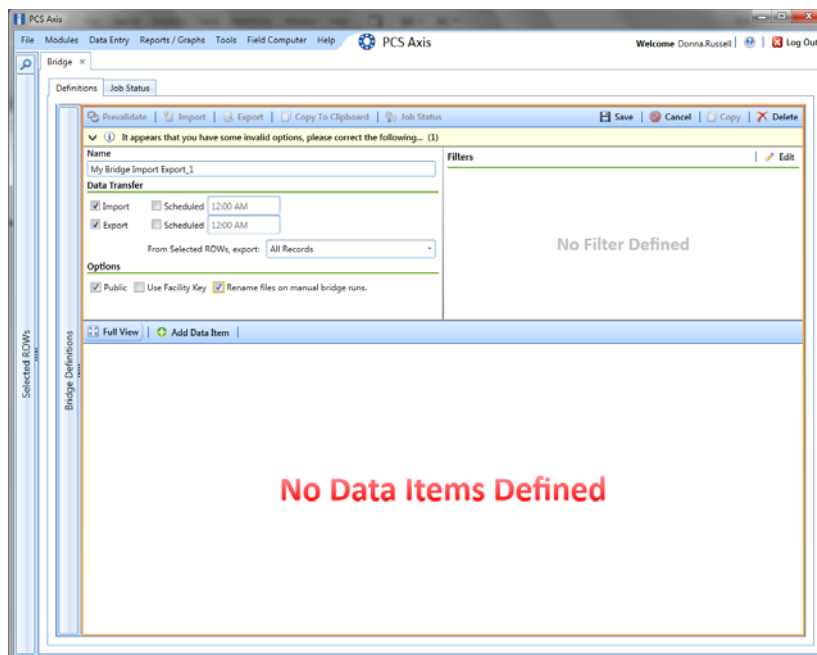

Figure 9-30. Bridge Import Export Definition
- 4 Type a unique name for the definition in the **Name** field (Figure 9-30, page 416).
- 5 To set properties in the *Data Transfer* group box, follow these steps (Figure 9-30, page 416):
- 6 To set properties in the *Options* group box, follow these steps (Figure 9-30, page 416):